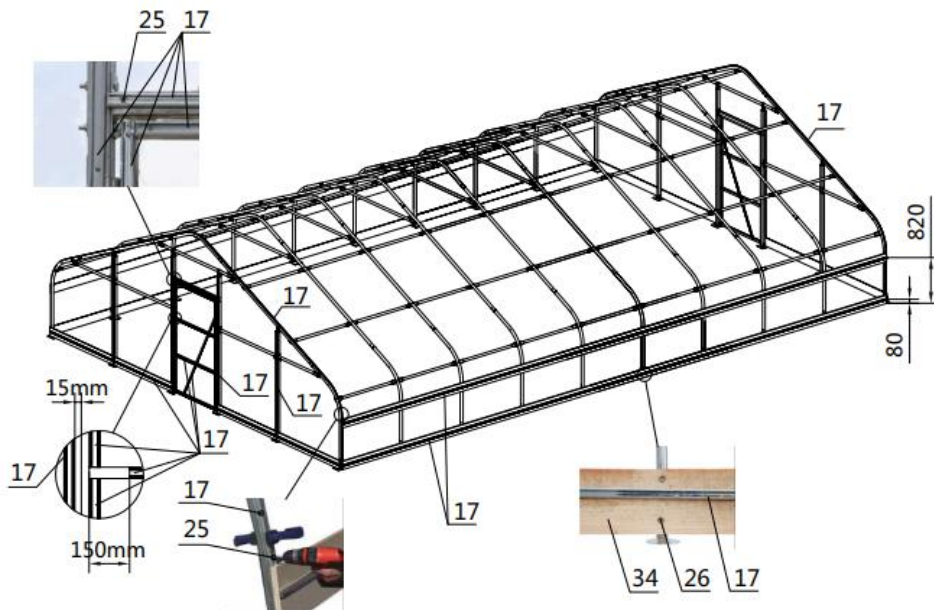

Figure 8
Step 5 : Installing boards (#34) and reed groove (#17) (refer to figure 8)
- (62) Reed groove (#17)
- (310) Self tapping screw (#25)
- (104) Self tapping screw (#26)